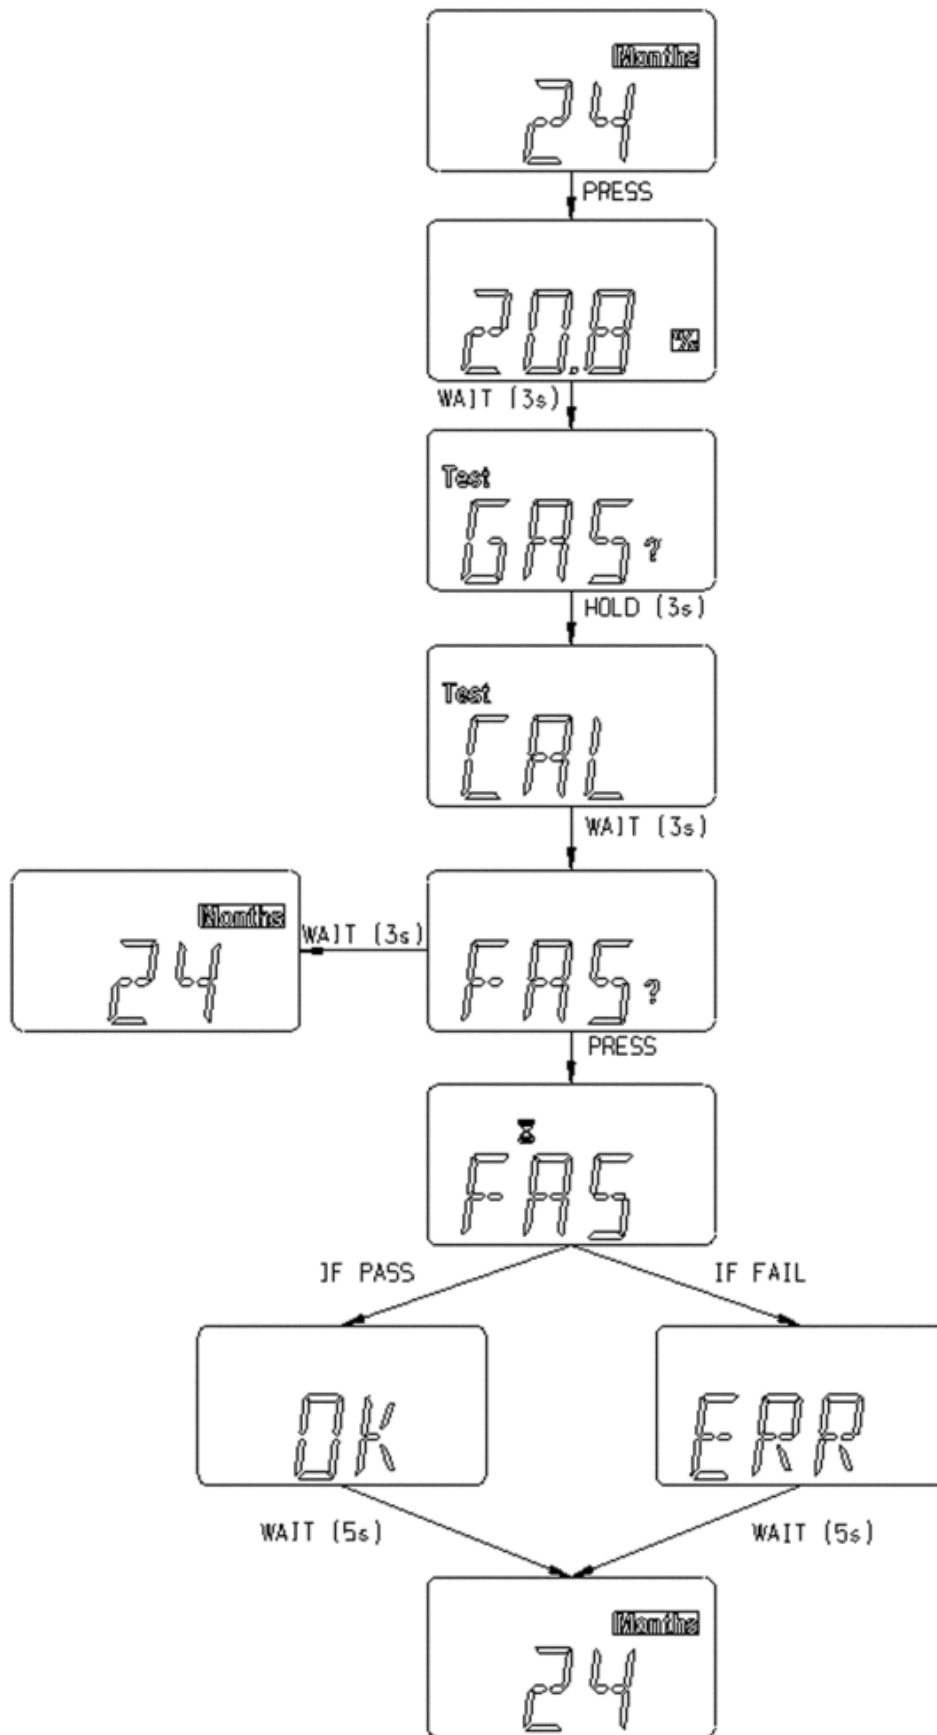

Figure 9 Calibration (Oxygen) Flow Chart
- See Figure 9 for more details.